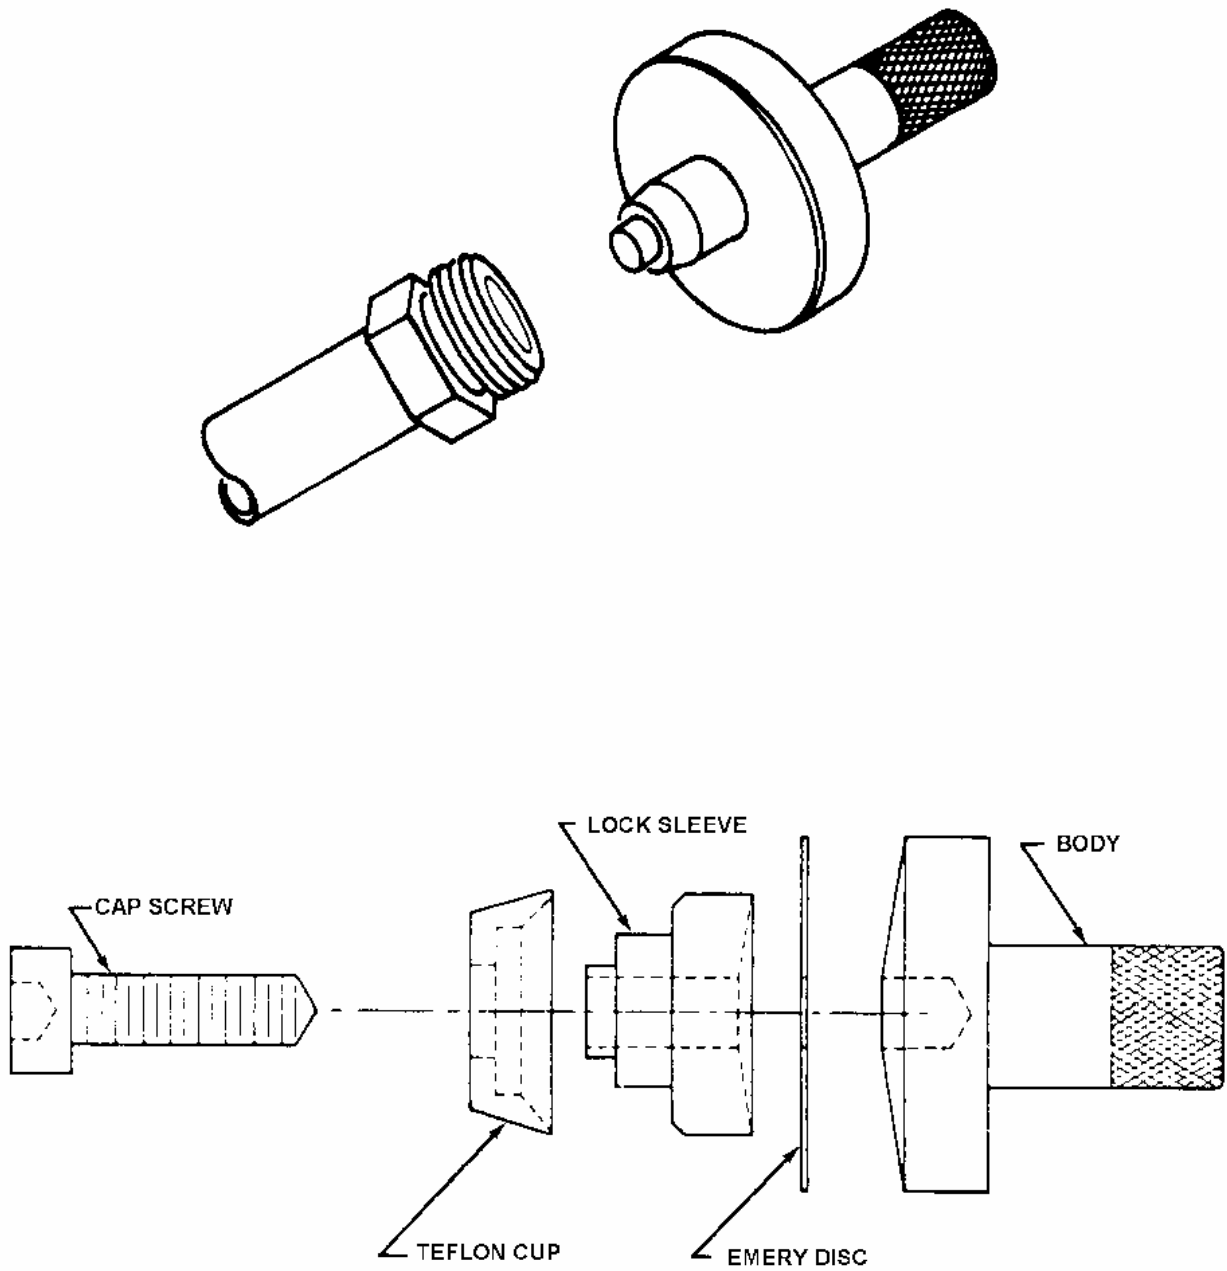

Figure 16. Resurfacing Tool Components
c. Mark tube at index line on jaw plate (Figure 16).
a. Determine size of damaged fitting and select resurfacing tool and proper size emery disc kit (Figure 16).
b. Remove cap screw from resurfacing tool (Figure 16). Without disturbing order of lock sleeve and teflon cup, insert coarse grit emery disc against convex surface of tool body with grit facing out. Reassemble tool and finger tighten cap screw.